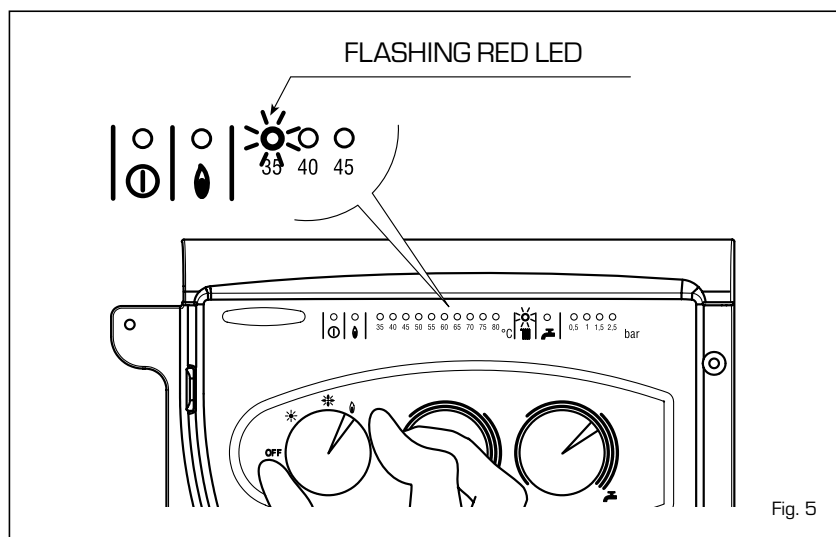

Fig. 5
- **Safety stat trip** (fig. 5)